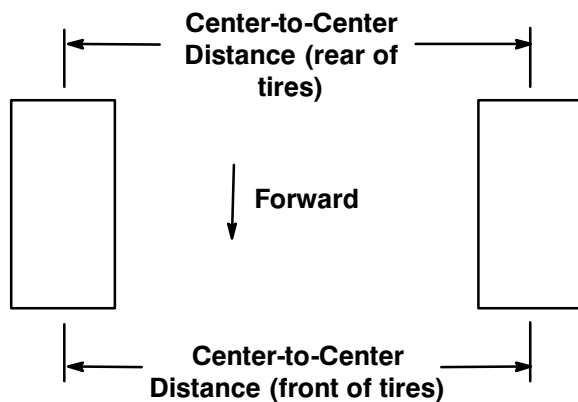

Figure 36
- Measure the distance between both of the front tires at axle height (at the front and rear of the wheels) (Fig. 36). Front measurement must be equal to the rear measurement $\pm 1/4$ in.